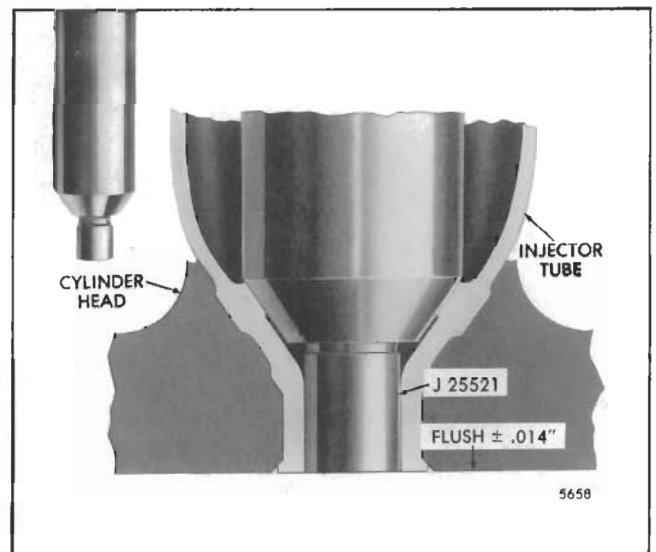

Fig. 7 - Measuring Relationship of Gage to Fire Deck of Cylinder Head
Install gage J 25521 in the injector tube. Zero the sled gage dial indicator J 22273 to the fire deck. Gage J 25521 should be flush  $\pm .014''$  with the fire deck of the cylinder head (Fig. 7).
- d. Remove the chips from the injector tube and, using gage J 25521, continue the reaming operation until the shoulder of the spray tip is flush to  $\pm .014''$  with the fire deck of the cylinder head as shown in Fig. 7. Then wash the interior of the injector tube with clean solvent and dry it with compressed air.